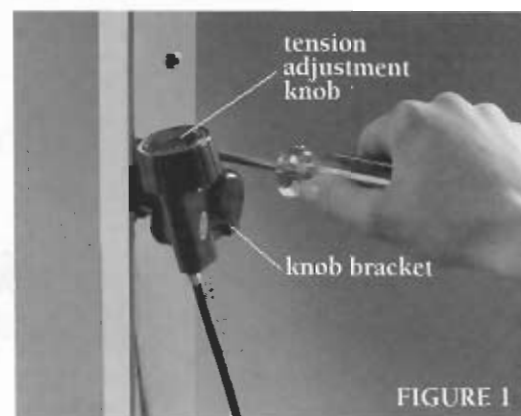

FIGURE 1
2. Use a Phillips screwdriver (not provided) to remove the knob bracket from the upright tube (Figure 1). Set both screws aside for now.